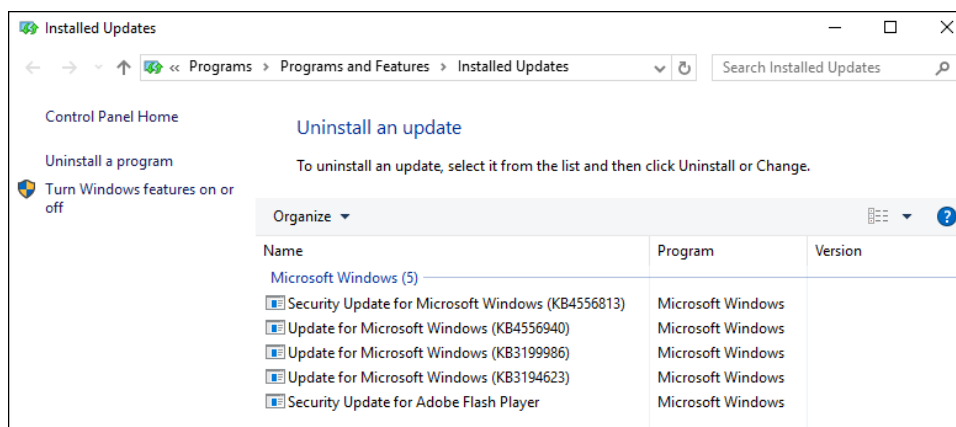

Figure 2-23. Installed Updates dialog
- b. Confirm that KB4556940 and KB4556813 appear in the Installed Updates dialog (Figure 2-23).